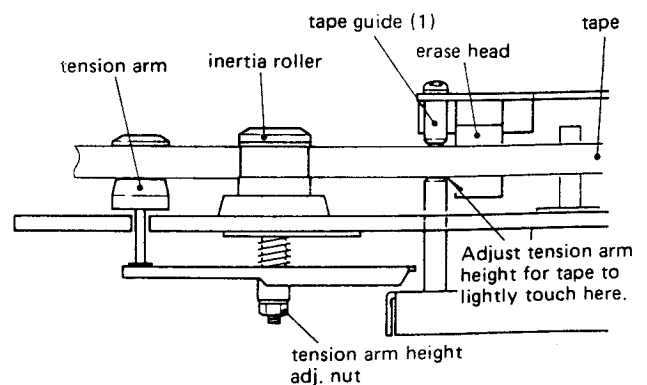

Fig. 2-21 Tension arm height adjustment
1. Running a TEAC YTT-8013 test tape (thickness =  $35\mu\text{m}$ ) in the forward direction, adjust the height of the left tension arm so that the lower edge of the tape is just touching the lower edge of the tape guide (1). See Fig. 2-21. Also refer to "2-10 TENSION ARM HEIGHT ADJUSTMENT".
2. Adjust the height of the tape guide (2) so that the upper edge of the tape is in contact with the upper edge of the tape guide.
4. Apply locking paint to the height adjusting nut of the tape guide (2).
5. During reverse play, adjust height of tape guides (3) and (4) in the same way as steps 1 ~ 4. For tape guide (4), adjust right tension arm height.